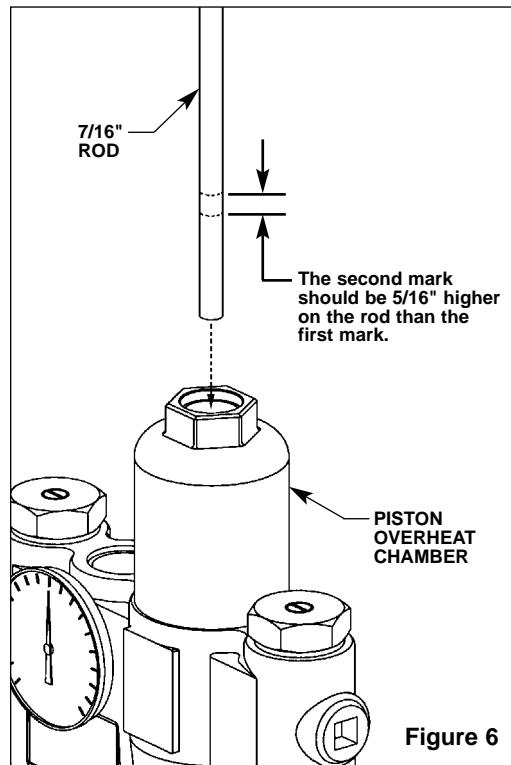

Figure 6
2. Insert a 7/16" dia. rod into the valve and into the piston overheat chamber. Mark the length of the rod inside the valve (see Figure 6).
3. Push the rod until the piston stops and mark the new length (the new length should be approximately 5/16" longer than the original length) (see Figure 6). If the length is not as it should be, the piston is not moving freely and needs to be cleaned along with the piston liner. Clean the piston and liner following the method outlined below: